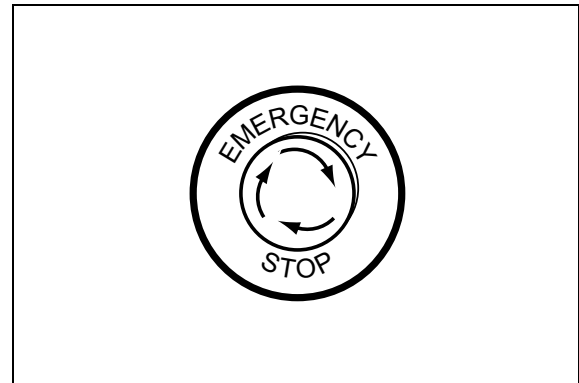

Figure 8-1: Emergency Stop Button
2. Pull out the Emergency Stop (E-stop) button (Figure 8-1).
2. Pull out the E-stop knob (Figure 8-1).